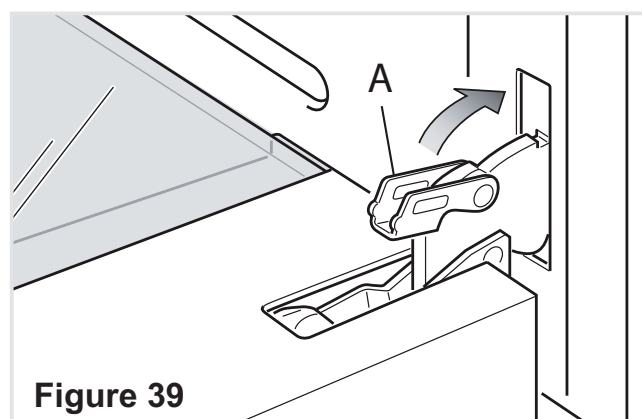

Figure 39
4. Unlock the oven door by opening it completely and closing the lever "A" on the left and right hinges (Fig. 39).